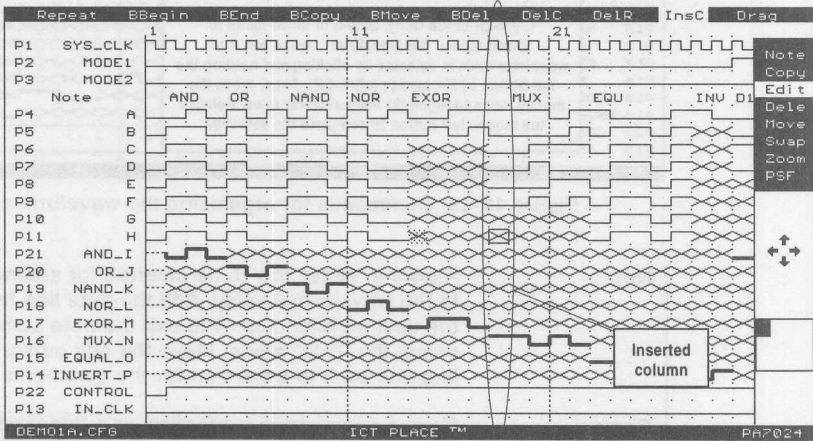

Figure 11-48. Inserting a vector column
- InsC Enters a mode to allow vector columns to be inserted. The vector column is inserted prior to the selected vector column (Figure 11-48). Additionally, the signals on the new column follow the selected vector column.